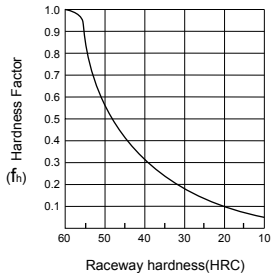

Fig 1.3.2 Hardness Factor (fh)
(Fig1.3.2)
- fh : hardness factor (Fig 1.3.2)